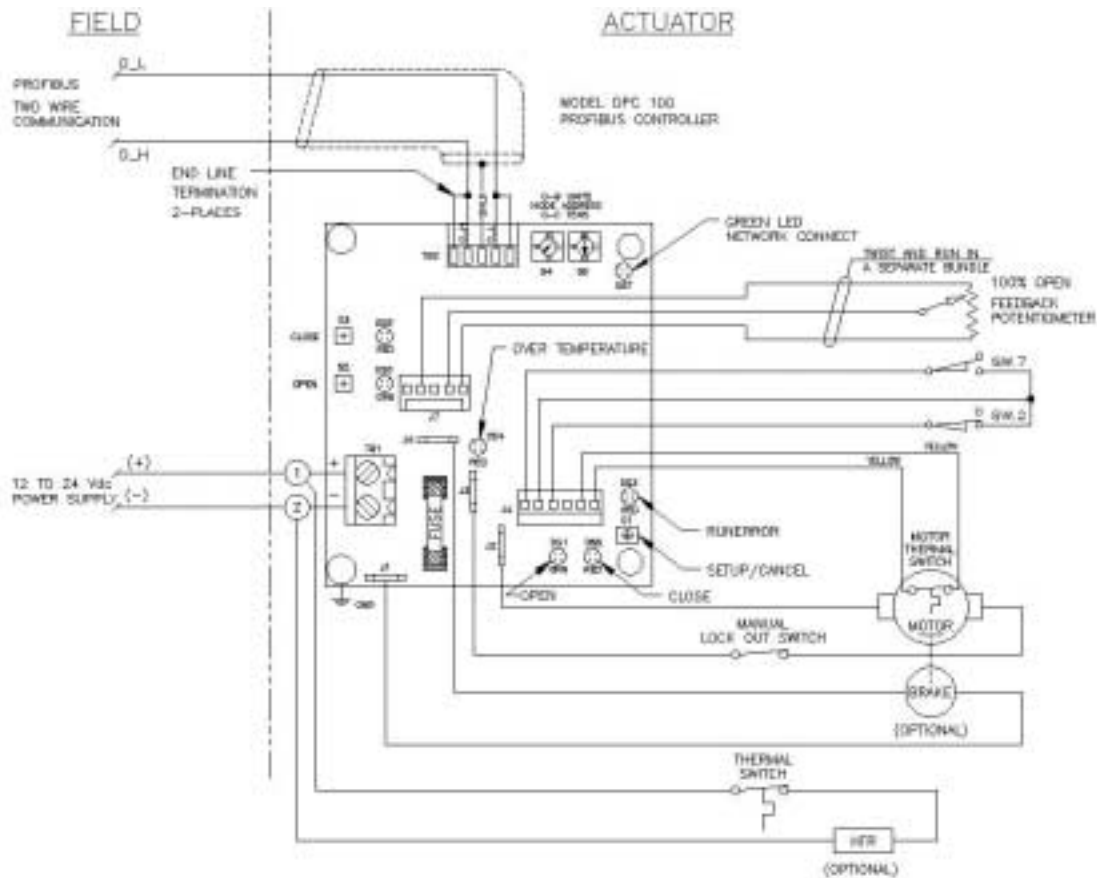

Fig. 3. Profibus Controller DPC 100.
- Set the actuator's address from 1 to 127 using the address switches on the controller. See Fig. 3.